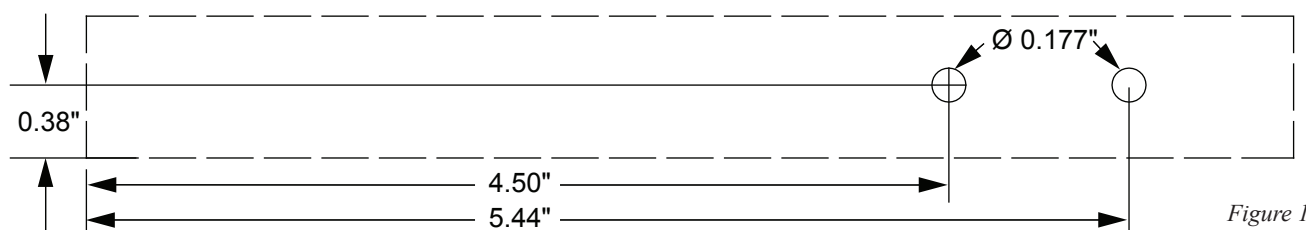
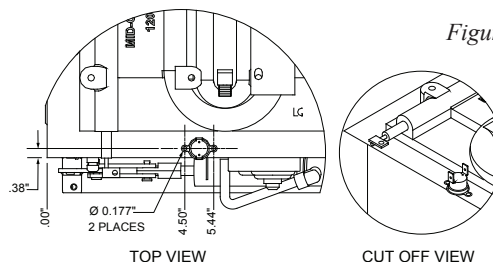

Figure 1
Figure 2
3. Drill two Ø 0.177" diameter holes with a #16 drill bit in the generator mounting plate as shown in Figure 2. Or use the Template - Figure 1